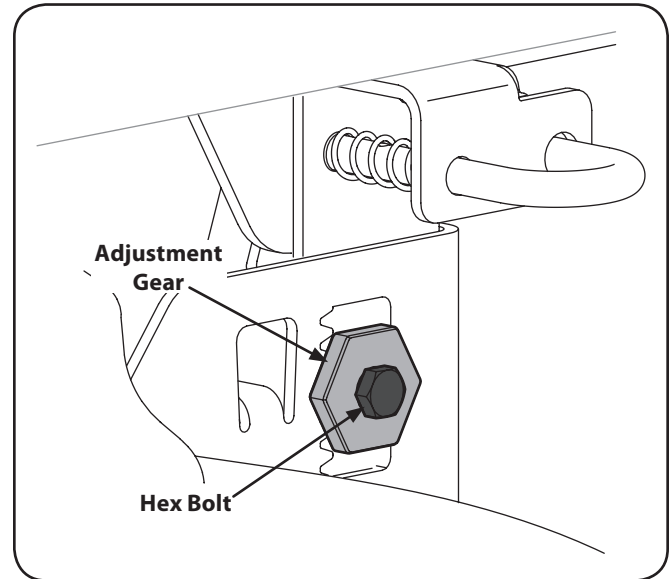

Figure 6-4
3. Loosen, but do NOT remove, the hex bolt on the rear left deck hanger link. See Figure 6-4. **NOTE:** The rear right deck hanger link is not adjustable and is used to help adjust the other hanger links.
4. Using a wrench, raise or lower the left side of the deck by turning the adjustment gear. See Figure 6-4.